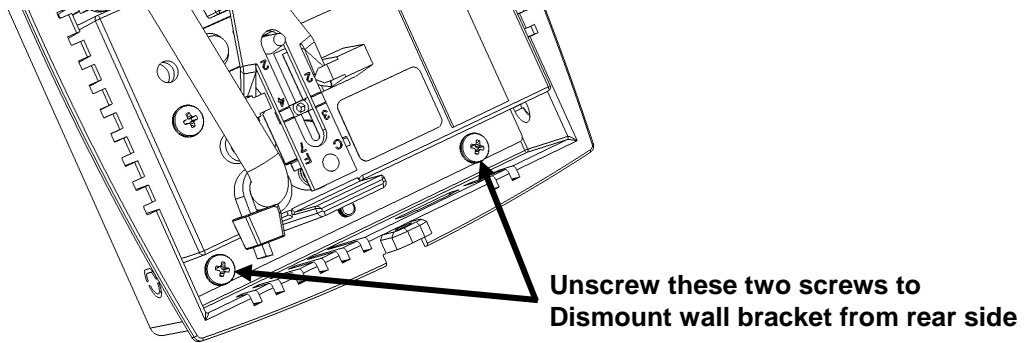

Figure 3. Removing the Universal Wall Bracket
2. If the Universal Wall-mounting Bracket is attached to WPT, remove it by unscrewing the two captive screws on the bottom of the WPT, as shown in Figure 3.